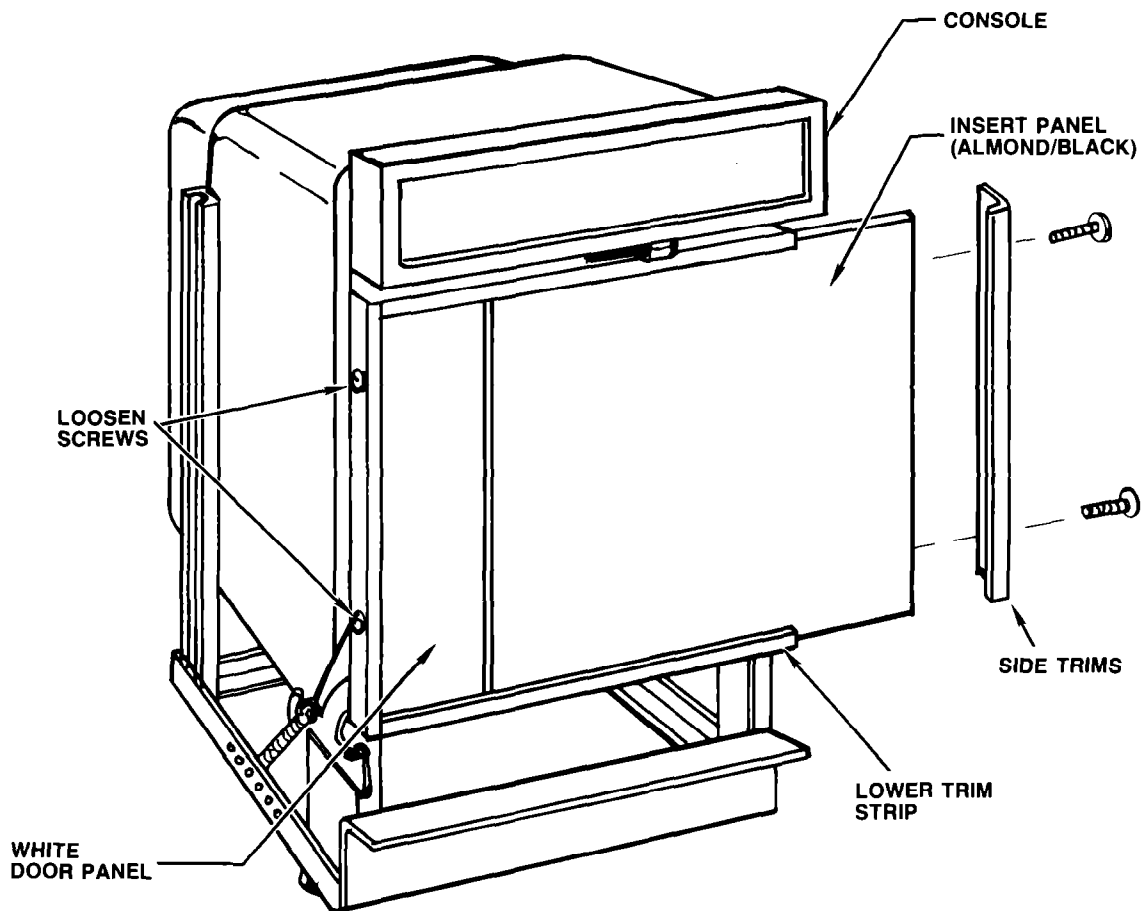

FIGURE 17
Step 2. Loosen but do not remove screws in side trim on opposite side. See Figure 17.
Step 4. Slide the door panel sideways until it is clear of the groove in the underside of the console and the lower trim strip of the door. See Figures 17 and 18A.